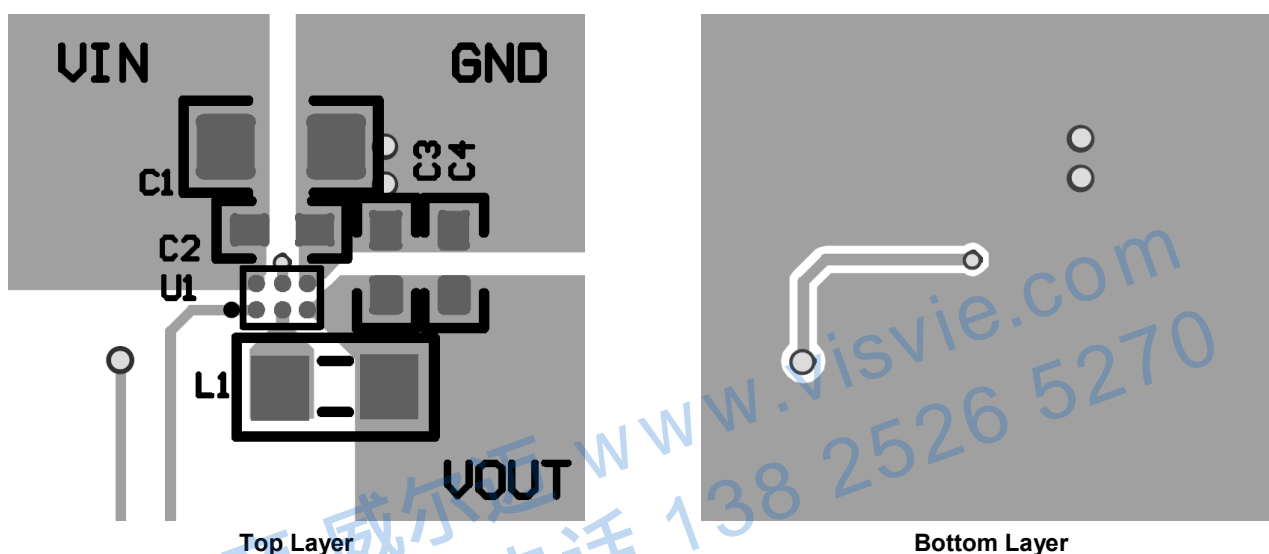

Figure 4. PCB Layout
- Typical suggested layout is provided in Figure 4.